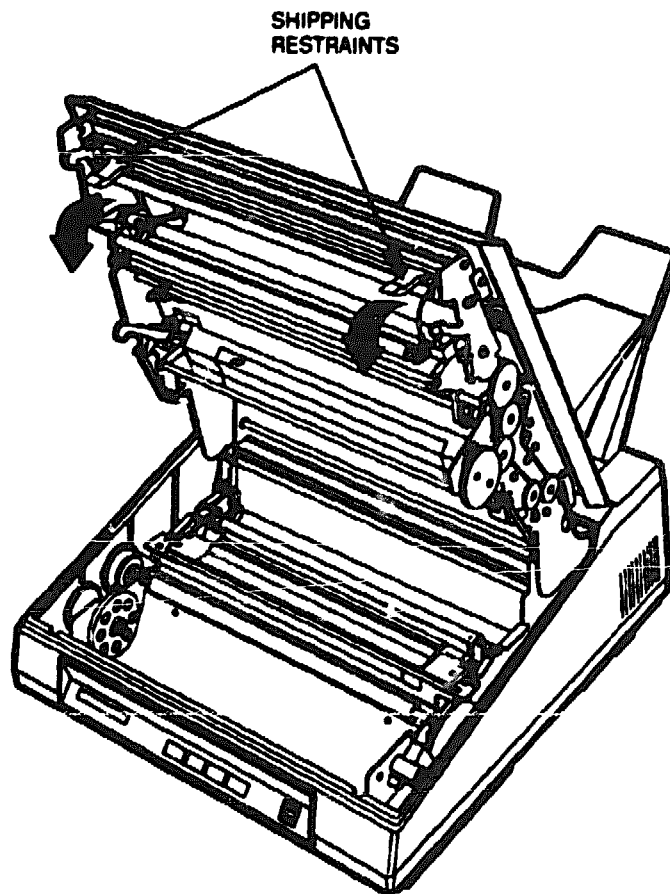

Figure 4-26 Shipping Restraints Set for Packing
5. Set the shipping restraints shown in Figure 4-26 to the down position.